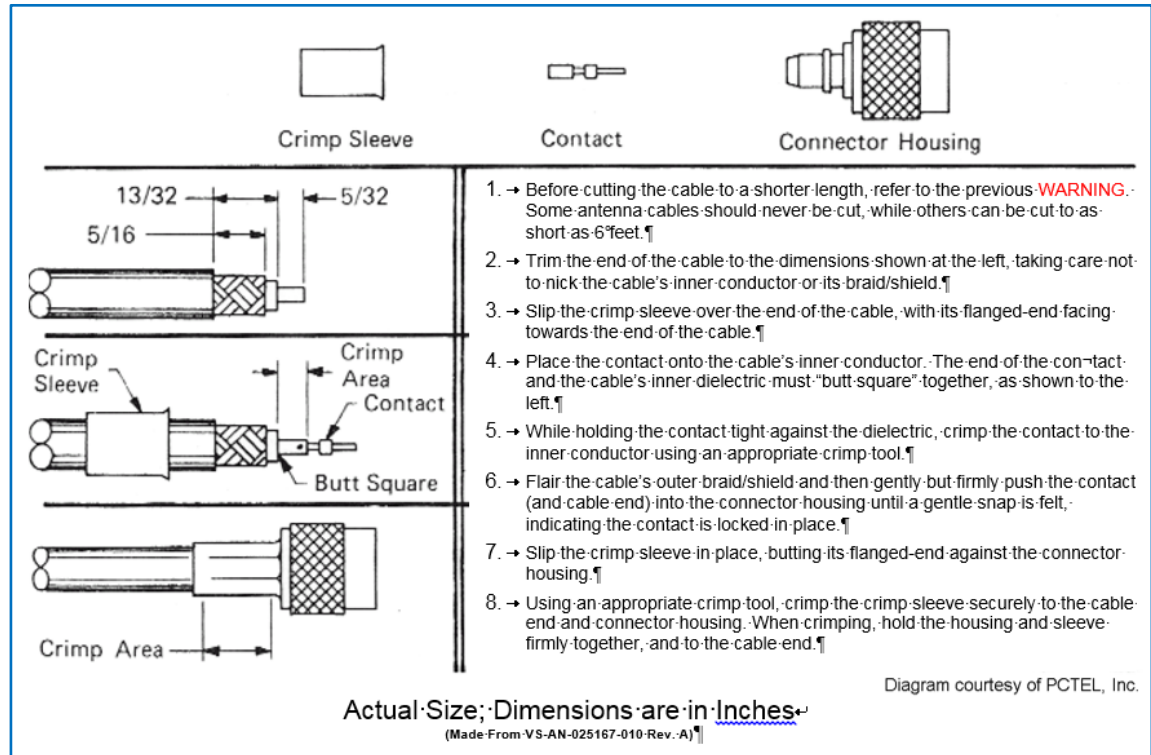

Figure 5-4: Crimping Instructions for TNC RF Connector
2. Using an appropriate crimp tool, crimp the supplied TNC RF connector to the end of the antenna cable. For crimping instructions, see Figure 5-4 or the instructions supplied with antenna mount.